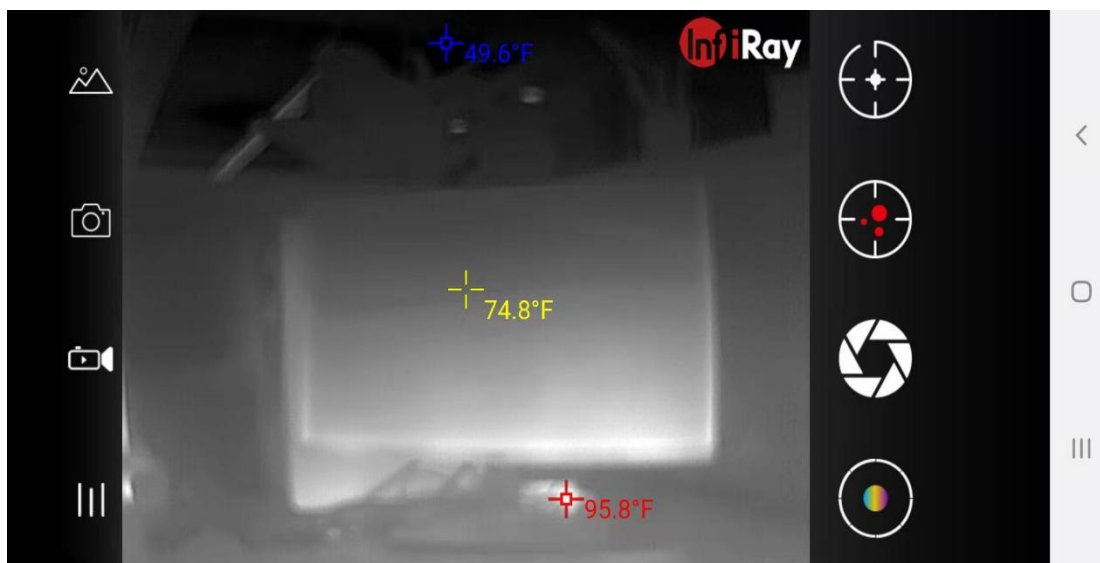

Figure 2.2.7 Fahrenheit temperature
1. Temperature Unit Setting: Touch the centigrade or fahrenheit temperature to switch, as shown in Figure 2.2.7.